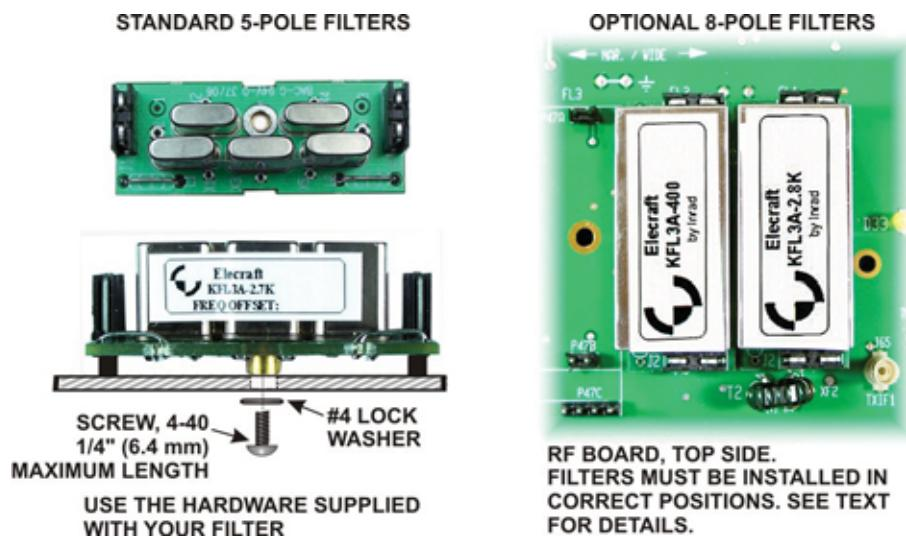

Figure 10. Installing Crystal I.F. Filters.
Locate the crystal I.F. filters. Two types of filters are available: standard 5-pole filters and optional 8-pole filters (see Figure 10). One standard 5-pole 2.7 kHz filter is supplied. If you have elected to equip your K3 with the optional 8-pole 2.8 kHz filter, it has been supplied instead of the 2.7 kHz filter. If you have purchased additional filters, they may be installed now as well. If you plan to add filters later, spaces may be left for them. For example, if you plan to add the FM or a 6 kHz AM filter later, you can leave spaces FL1 and FL2 open for them and install the 2.8 kHz filter in position FL3. The filters are not hard to move about later, so if you aren't sure, install the widest at FL1, the next widest at FL2 and so on.
- Install the filters as shown in Figure 10. Refer to the list of filters you created in Table 1 to determine which filter to install at each location.